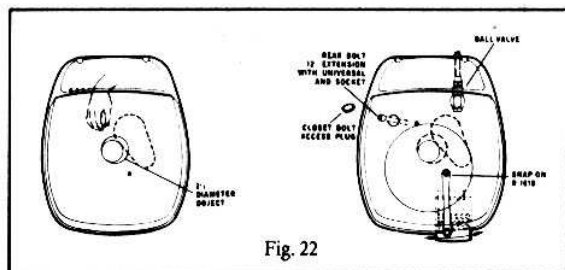

Fig. 22
- a. You assemble the rear closet bolt flange nut by reaching your right hand through the rear access hole (shown in Figure 22). The header points on the closet bolts will help start the nut. Tighten the nut until the base of the toilet contacts the floor.
NOTE: If the space around the toilet does not permit the above method, access to the rear nut can be gained by removing the access plug (shown in Figure 22). Plug is removed by pressing down on the plug's edge closest to the bowl. You assemble the rear closet bolt flange nut by reaching through the access hole with a socket, a universal and a 12" extension. The flange nut may be held in the socket with a small dab of sealer.